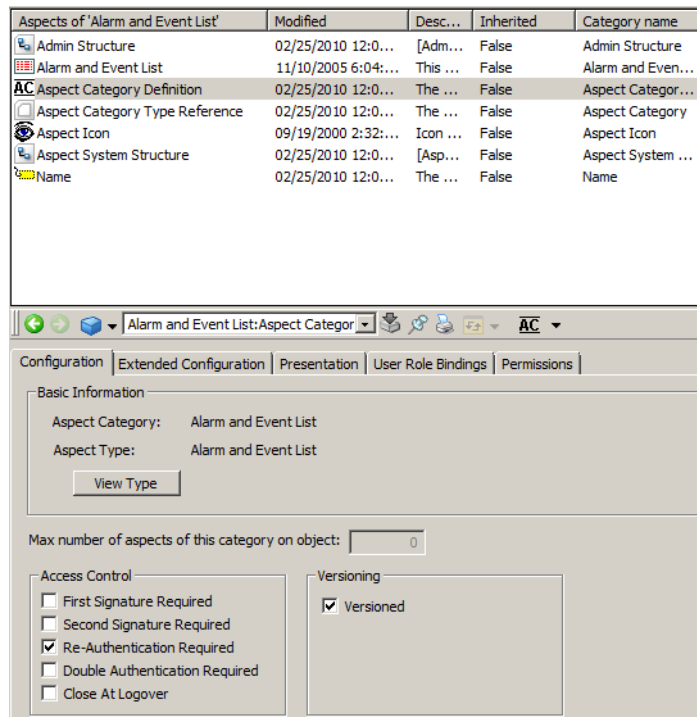

Figure 83. Aspect Category Definition Aspect - Configuration Tab
- Select the Aspect Category Definition Settings aspect in the aspect list. See Figure 83.